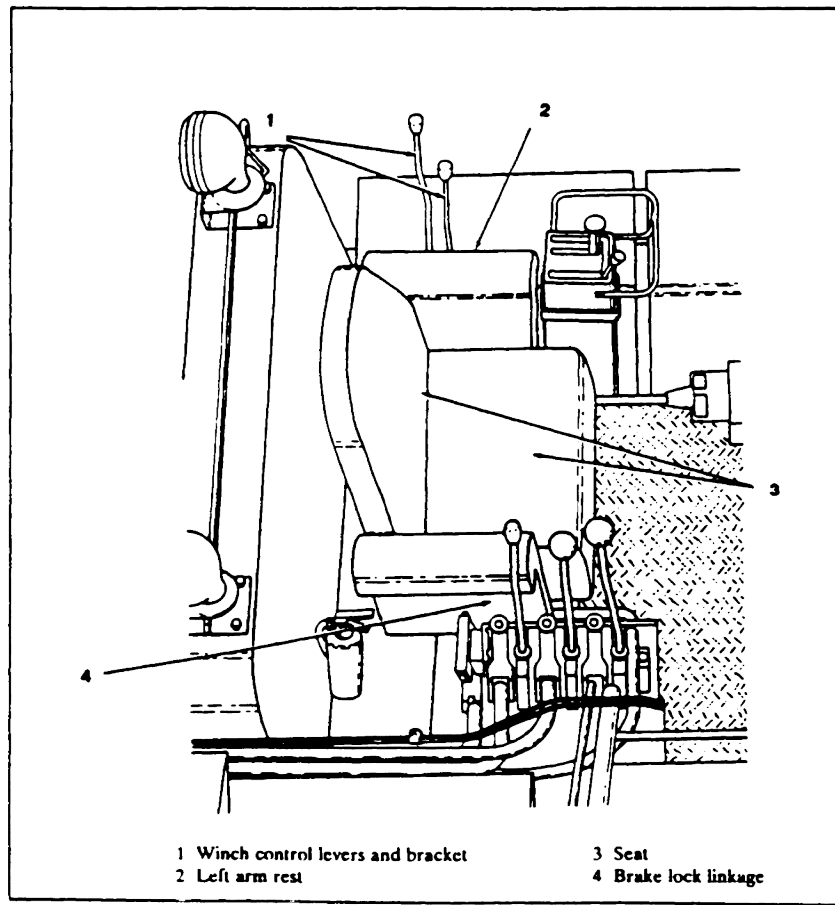

FIGURE 34. SEAT FRAME INSTALLATION
- Connect the brake lock linkage (Figure 34).